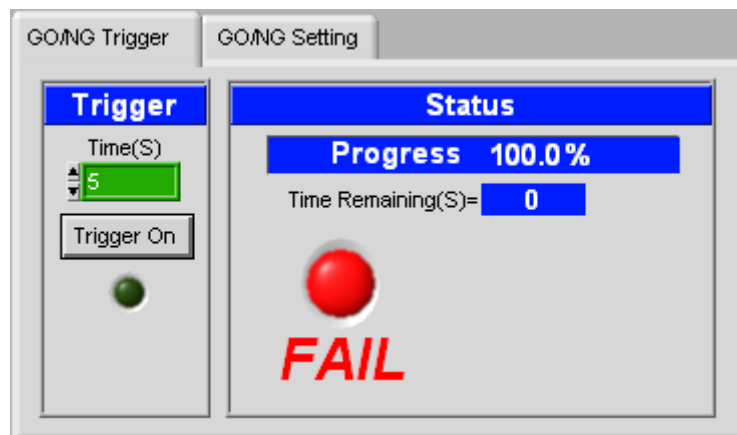
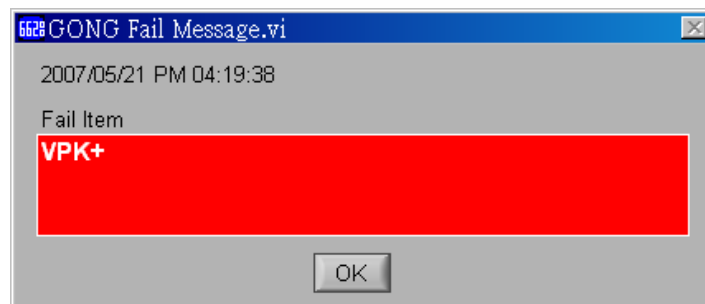

Figure 4-20 GO/NG Trigger
Figure 4-21 GONG Fail Message
Switch to GO/NG Trigger screen as Figure 4-20 shows after the GO/NG Setting is done. Time(S) sets the detection time of GO/NG and the light beneath the button **Trigger On** will turn on when it is clicked to start the judgment. To pause it, just click **Trigger Off**. If the measured value is inside the specification range within the time set, PASS will appear when the time is due; or FAIL will prompt as well as the parameter that exceeds the specification rang as Figure 4-21 shows.